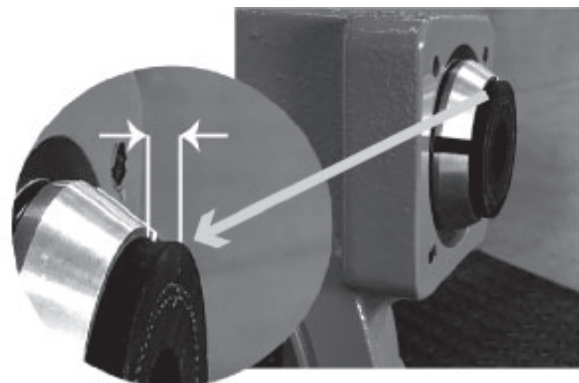

Fig. 1
6. Lay the press rings. Between the end of the hose and the press ring, there must be a specific distance (see fig. 1 and fig. 2).
Boyser pump model	Approximate distance outside press ring (Fig. 1)